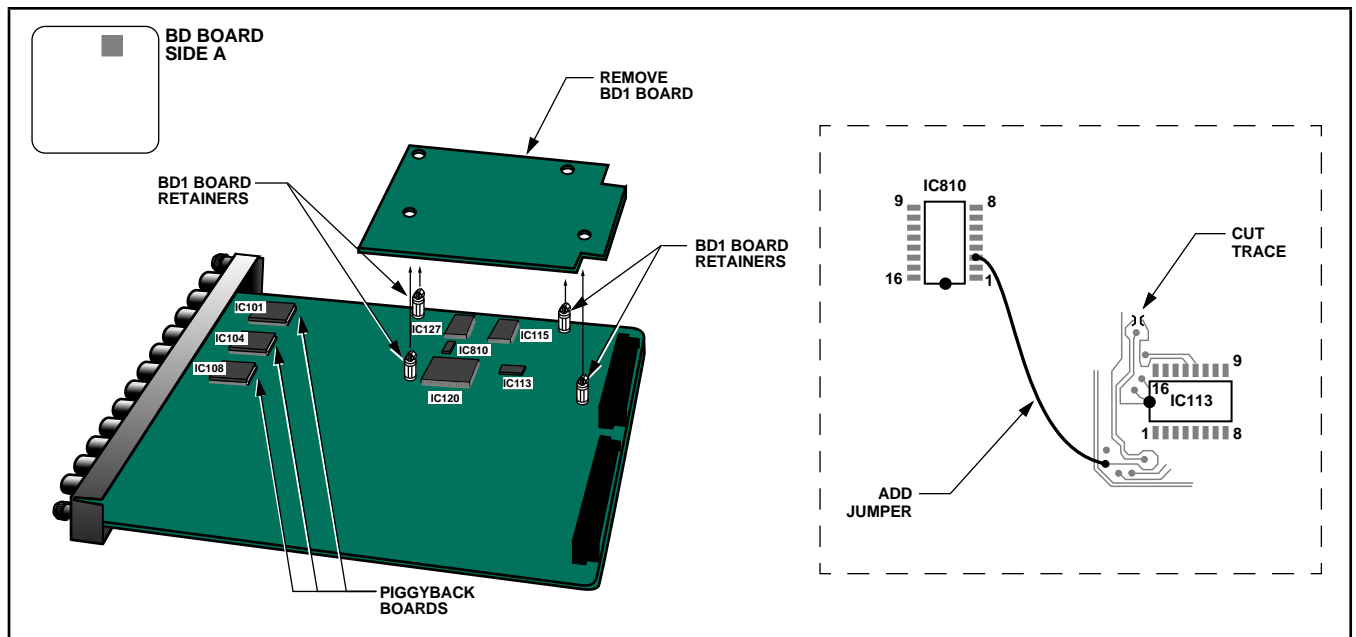

Figure 1
(See Figure 1.)**
3. Cut a trace leading from pin 13 of IC113 (zone B-13) as shown in Figure 1, inset.
4. Solder a jumper between pin 3 of IC810 (zone B-12) and the land near IC113 as shown in Figure 1, inset.